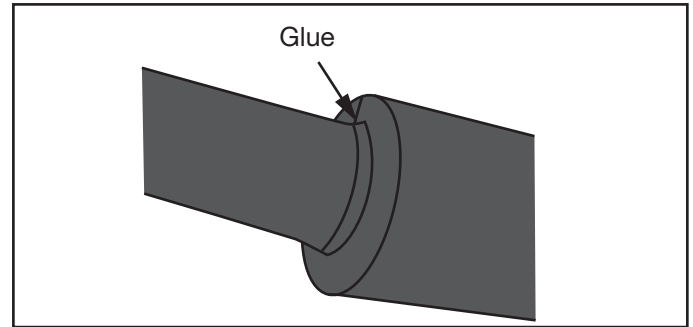

Figure 12. Completed Heat-shrink Tube Application
10. Once the heat-shrink tube has shrunk completely the glue from inside of it should be visible on the ends. See Figure 12.